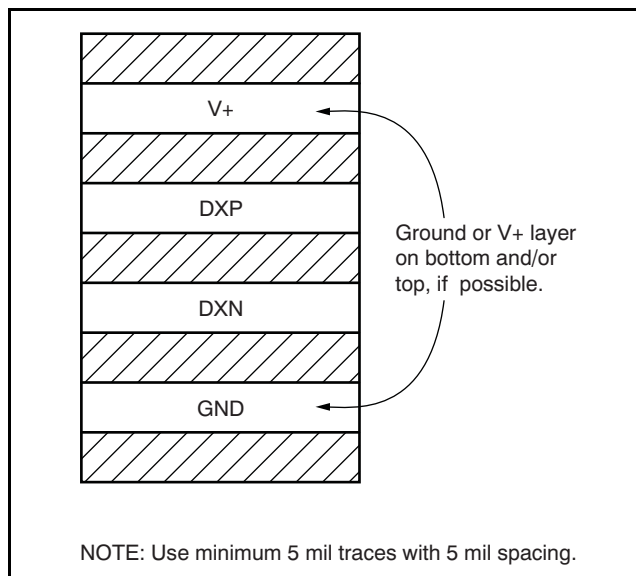

Figure 19. Suggested PCB Layer Cross-Section
2. Route the DXP and DXN traces next to each other and shield them from adjacent signals through the use of ground guard traces, as shown in Figure 19. If a multilayer PCB is used, bury these traces between ground or V_{DD} planes to shield them from extrinsic noise sources. 5 mil PCB traces are recommended.